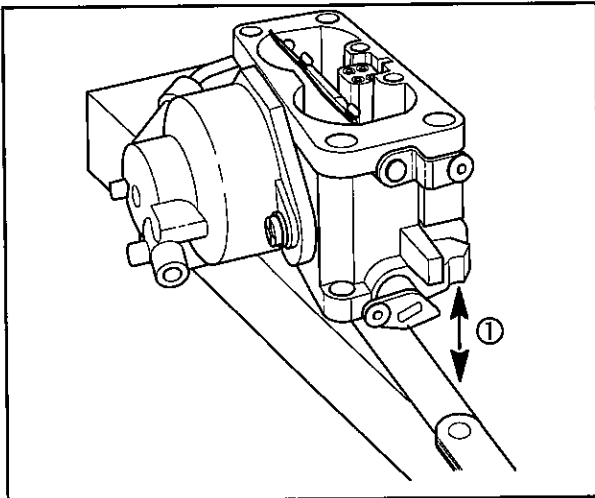

Fig. 115
1. Lay carburetor on flat surface and check throttle and choke shaft clearance as shown in **Fig. 115**.